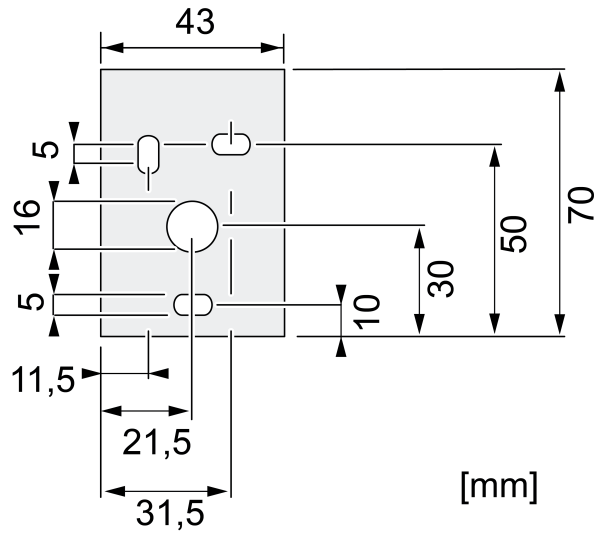

Figure 8: Fastening arm – dimensions for boreholes
- Wall mounting: Attach fastening arm to the wall through the boreholes (figure 8) using suitable screws.
- Attach the 7-pin plug to the connection (7). Tighten threaded ring with max. 0.5 Nm.